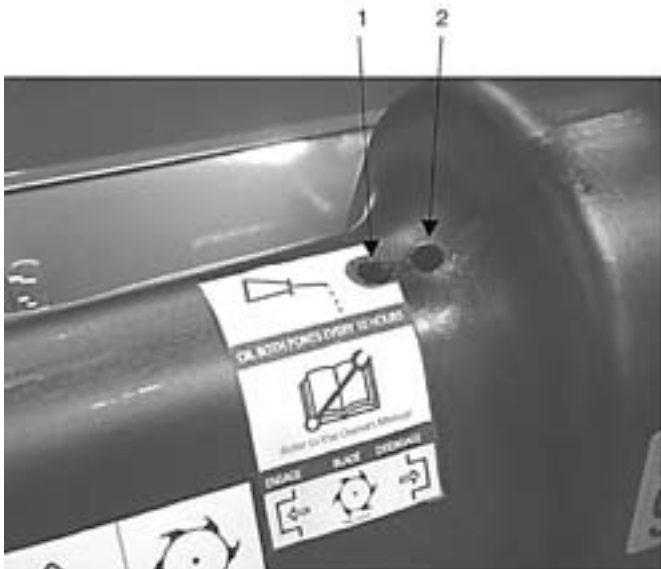

Figure 13. Clutch lubrication points. Clutch thrust pad and clutch inner cone points.
1. Clutch Thrust Pad (1) - looking through the left hand oil port hole in the clutch cover apply three drops of oil in the thrust pad oil hole. Figure 13.
2. Clutch inner cone (2) - looking through the right hand oil port hole in the clutch cover apply three drops of oil in the clutch inner cone oil hole. Figure 13. Note: it may be necessary to engage the clutch and slowly pull on the engine starter cord to align the inner cone oil hole with the clutch cover hole.